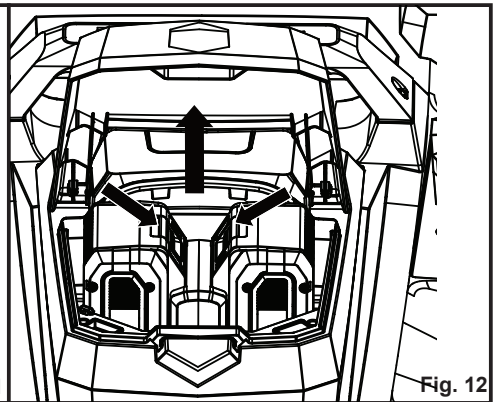

Fig. 12
2. Press the release button on the battery pack, grasp the battery pack firmly and pull out of the battery compartment. Remove the second battery in the same way (Fig. 12).